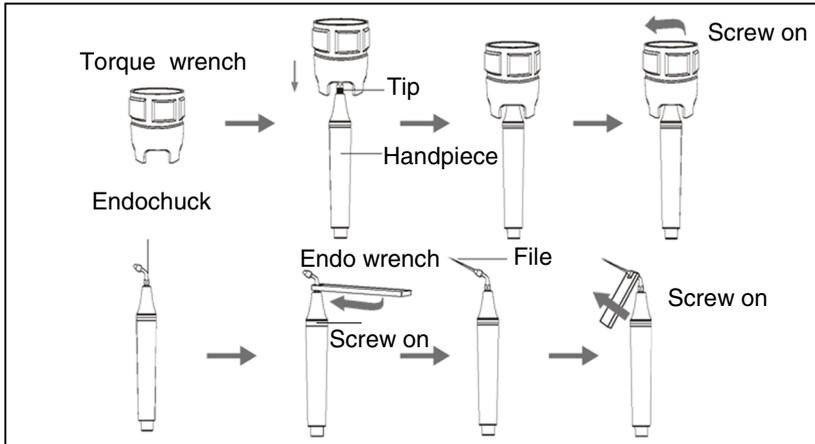

Fig. 7
- i) Select a suitable scaling tip as you need, screw it on the handpiece tightly by the torque wrench (See Figure 7).
2.1.3 Instruction of torque wrench (See Figure 7)
- 1 Take the scaling tip into the torque wrench, operate as showed in figure 7.
- 2 Tip installation: Hold the handpiece, turn the tip toward direction as showed in figure 7 with the torque wrench. Turn two more circles when the tip stops, then the tip is installed.
- 1 Fix endochuck to handpiece by endo wrench (See Figure 7).